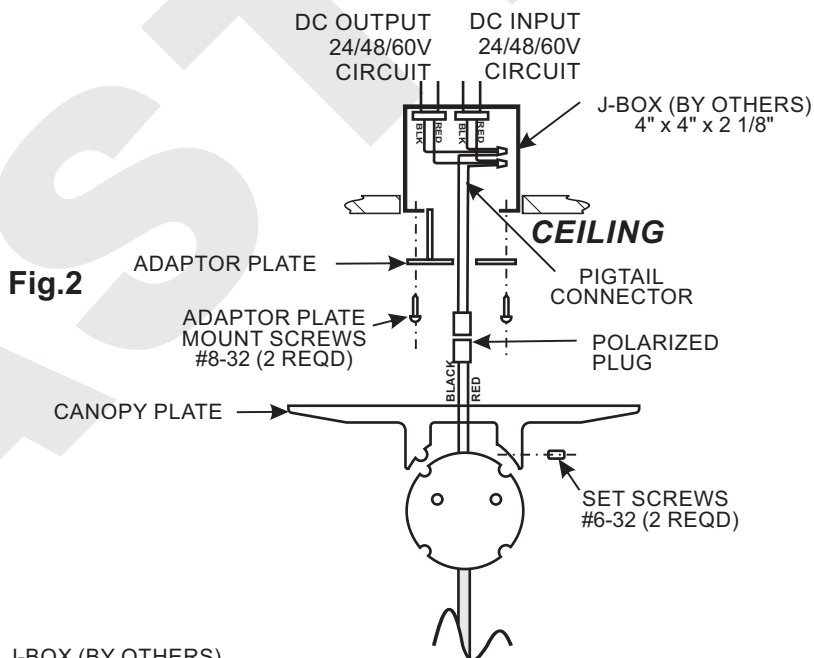

Fig.2
1. See fig.2. Follow WALL MOUNT steps 1-4.